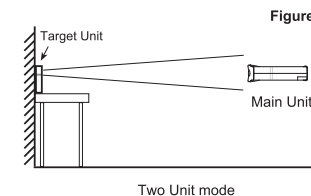

Figure 4
**Note:** The Main Unit should be level with the Target Unit and point perpendicularly to the front of the Target Unit. (see Figure 4)